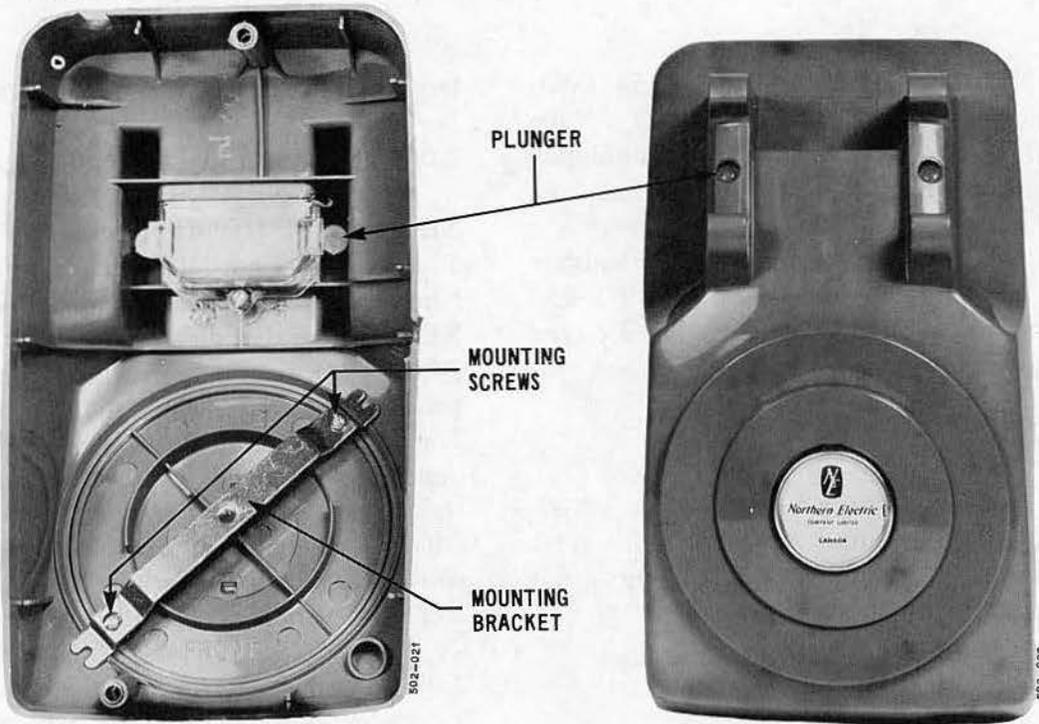

Fig. 5 - NE-500 Type Telephone Set Housing Equipped With an NE-95B Apparatus Blank
2.01 The NE-500 and NE-554 type telephone sets are equipped with a rotary dial. The dial may be replaced in the field, with an NE-95B apparatus blank, if the telephone set is converted for manual operation. (Fig. 5 and 6.)